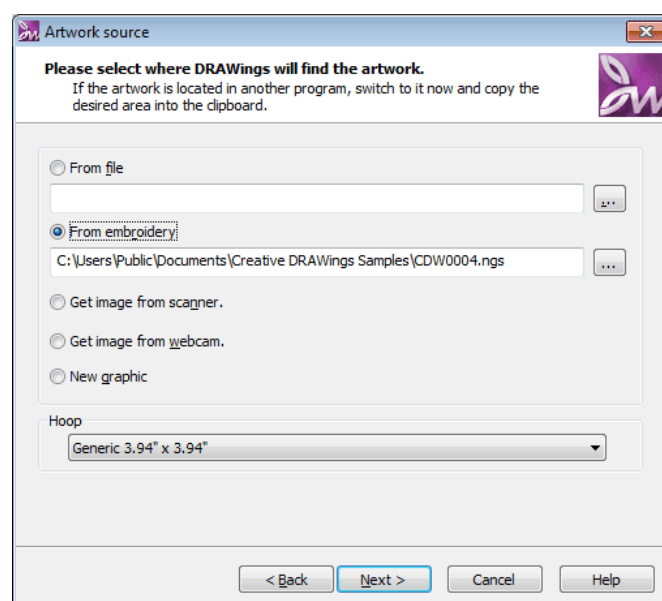

Figure 2.32: Starting dialog - 2nd page
4. The **Artwork source** dialog will appear (Figure 2.32)
13. The **Artwork source** dialog will appear once more (Figure 2.32) with the design you selected under **From file** field.